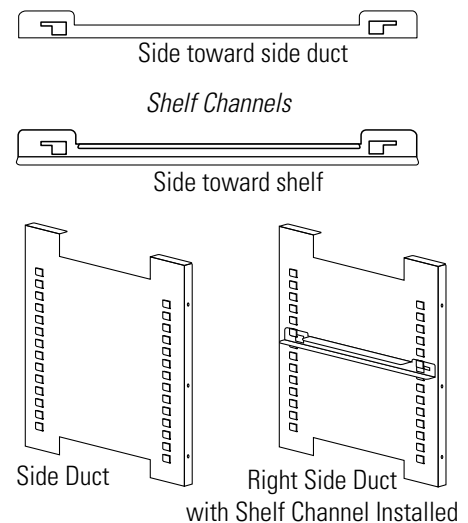

Figure 1-7. Shelf Channels and Ductwork
1. Install the large sheet metal shelf supports with the tabs facing into the center of the chamber with their slots up. There are no right side or left side supports. Simply rotate one of them to fit the opposite side. Tilt the shelf supports as they are placed in the chamber so the tops fit into the top air duct, then guide them into the vertical position. Figure 1-7 shows the support as it would be oriented for right side of chamber.